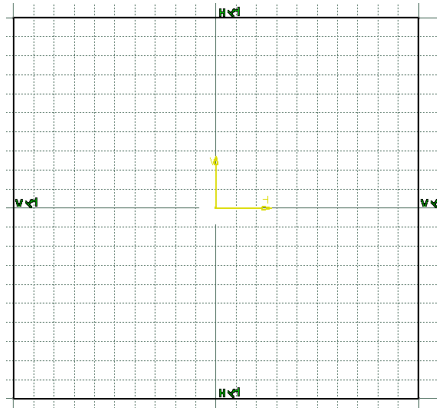

Figure 3-43 The sketch after drawing the centered rectangle
- b. Draw the outer loop of the sketch using the **Rectangle** tool and then edit it using the **Corner** tool, refer to Figures 3-43 through 3-45.
5. Specify the point at this location to draw the rectangle, which is shown in Figure 3-43. Click anywhere in the geometry area to make sure that the rectangle is no more selected.